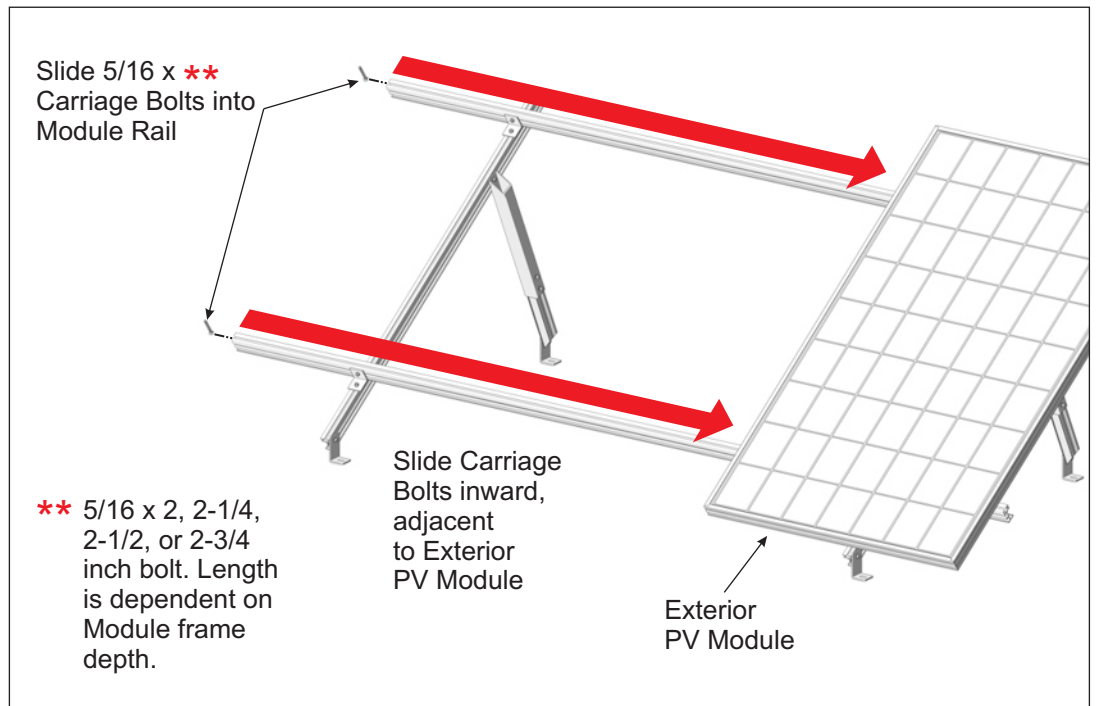

Figure 9-4: Inserting Mid Clamp Hardware into Power Rail
- C. Before placing the interior Module onto the Power Rails, first insert 5/16" x 2, 2-1/4, 2-1/2, or 2-3/4" carriage bolts (bolt length is dependent on depth of Module frame) into the Module Rail, sliding the bolts inward next to the previously installed exterior Module. (See Figure 9-4)